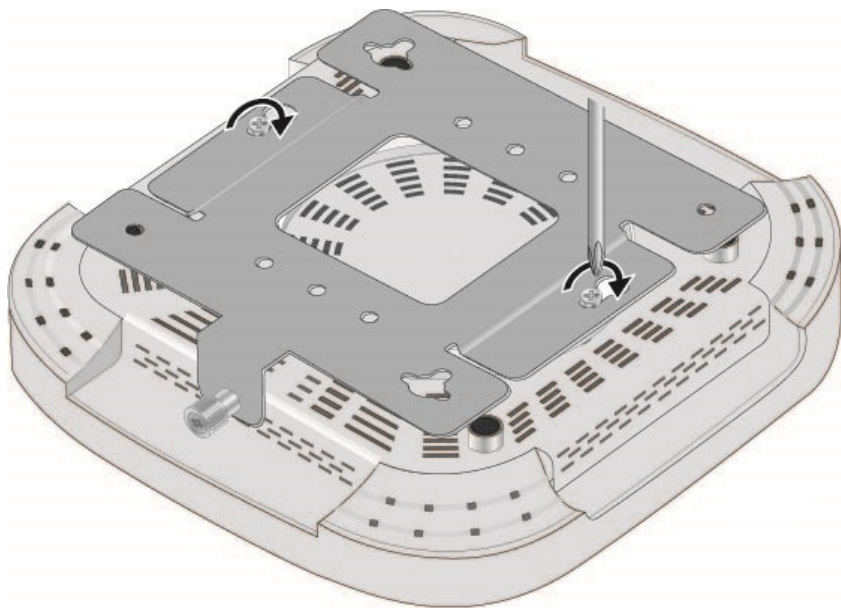

Figure 13. Adjusting the Screws on the Access Point
3. Tighten the screws so that they touch the mounting bracket plate, and then loosen them by approximately 1/4 turn. Refer to Figure 13.